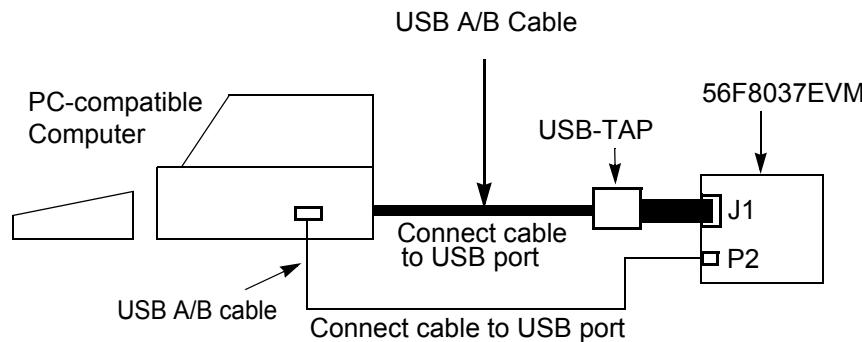

Figure 1-2. 56F8037EVM Cabling for USB Power
An interconnection diagram is shown in Figure 1-2 for connecting the JTAG Debug and USB between a PC and the 56F8037EVM.
2. Connect the other end of the USB-TAP cable to the USB-TAP module. Connect the ribbon cable from the USB-TAP module to J1 on the 56F8037EVM, shown in **Figure 1-2**. This provides the connection which allows the host computer to control the debug functions on the 56F8037EVM board.
4. Connect the other end of the second USB cable to the USB connector, P2, on the 56F8037EVM board, shown in **Figure 1-2**. The green Power-ON LED, LED7, will illuminate when power is correctly applied.